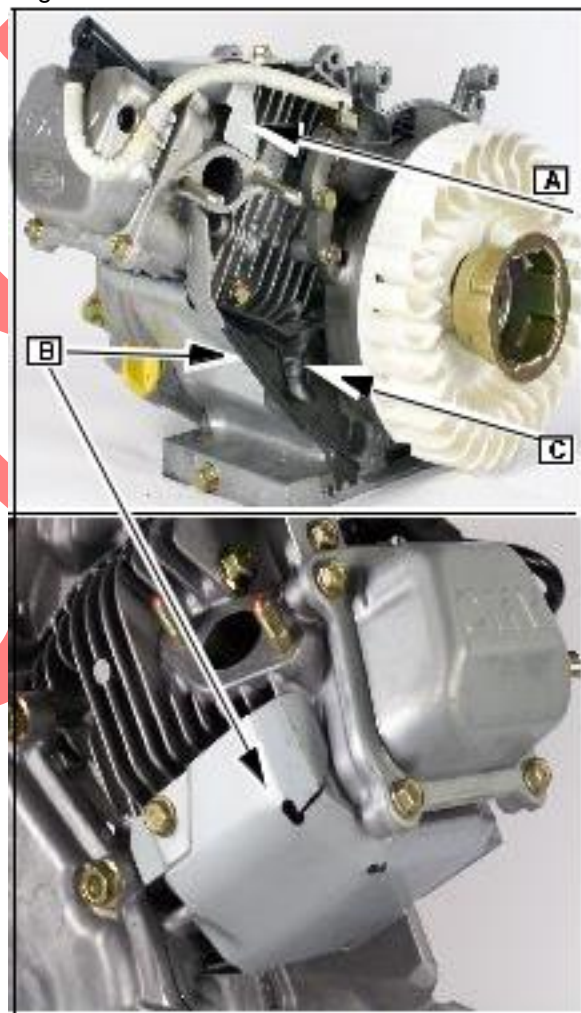

Fig. 17
The engine baffles for the models listed above consist of stamped sheet metal parts (A) that wrap around the cylinder. The larger engines have separate lower baffles (B) and some have an additional plastic baffle ([C] Fig. 17) to seal the blower housing.